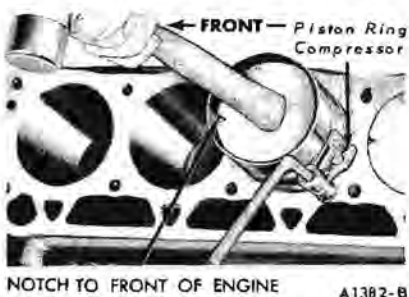

FIG. 38—Piston Installation
4. Make sure the ring gaps are properly spaced around the circumference of the piston. Install a piston ring compressor on the piston and push the piston in with a hammer handle until it is slightly below the top of the cylinder (Fig. 38). Be sure to guide the connecting rods to avoid damaging the crankshaft journals. **Install the piston with the notch in the piston head toward the front of the engine.**